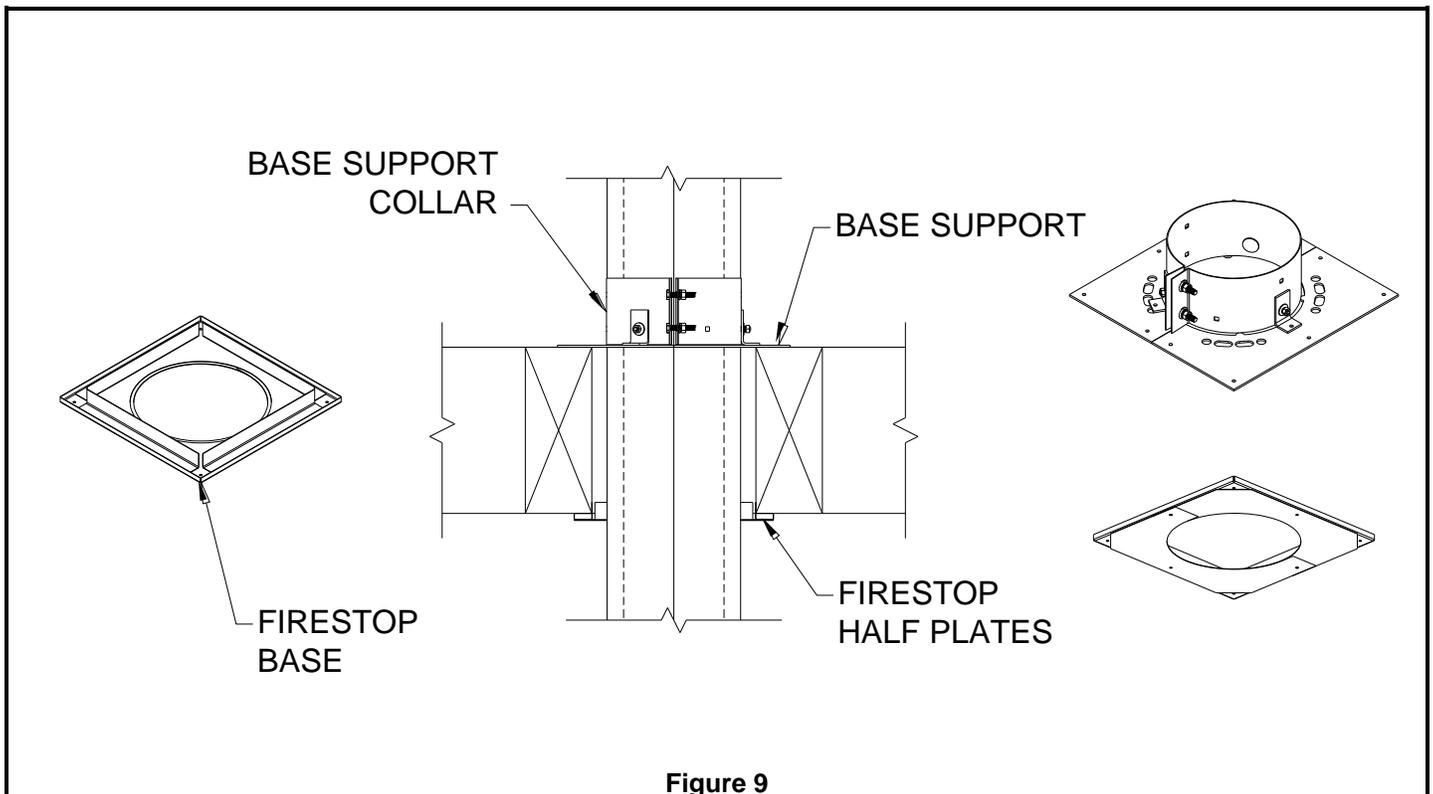

Figure 9
3. From below, install a Radiation Shield in each floor opening. If you are installing a Base Support on top of the floor you will need to adjust the height of the radiation shield to match the floor thickness. The radiation shield is supplied fully extended. To adjust the radiation shield slide the top tube to the desire height then screw the two sections together with the self tapping screws provided (see **Figure 9**).
5. After the vent passes through a floor opening screw the two half plates (supplied with the Radiation Shield) using the pre-punched holes to the Radiation Shield base (see **Figure 9**). This will seal the gap around the vent and the Radiation Shield.